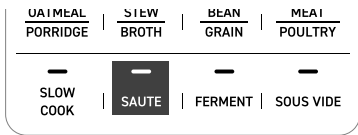

Figure 6.2
- 2. Select **SAUTE** and press the **-** or **+** buttons to adjust the time. [Figure 6.2]